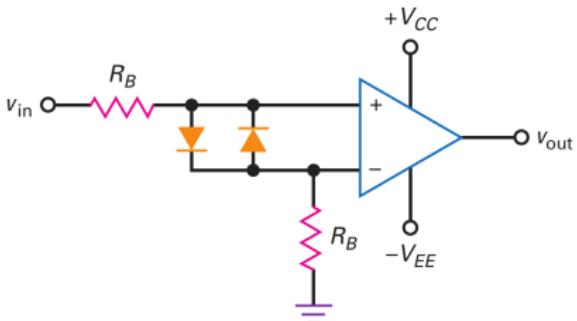

Figure 12: Using a compensating resistor to minimize the effect of $I_{in(bias)}$
- When a current-limiting resistor is used with clamping diodes, a compensating resistor of equal size may be used on the other input of the comparator, as shown in Fig. 12.